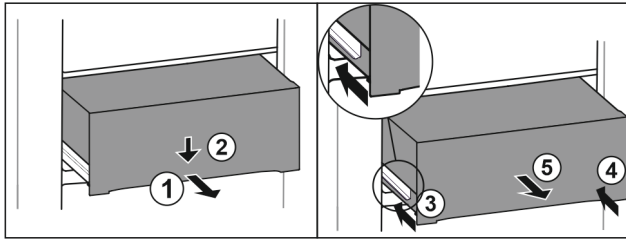

Fig. 163
- ▶ Pull out drawer half-way. Fig. 163 (1)
- ▶ Push the drawer down at the front. Fig. 163 (2)
- ▶ Push the left rail in by about 2 cm. Fig. 163 (3)
- ▶ Push the right rail in by about 2 cm. Fig. 163 (4)
- ▶ Remove drawer to the front. Fig. 163 (5)